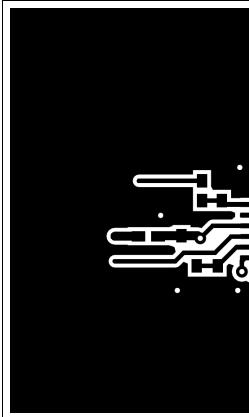
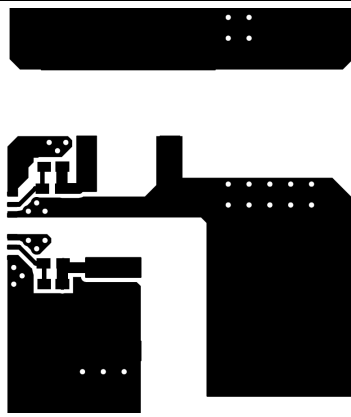

Figure 40. Top Layer Traces and Copper
Figure 41. Bottom Layer Traces and Copper
- Increasing the PCB copper connecting to VDDA, VDDB, VSSA and VSSB pins is recommended, with priority on maximizing the connection to VSSA and VSSB (see Figure 40 and Figure 41). However, high voltage PCB considerations mentioned above must be maintained.
Figure 40 and Figure 41 shows top and bottom layer traces and copper.